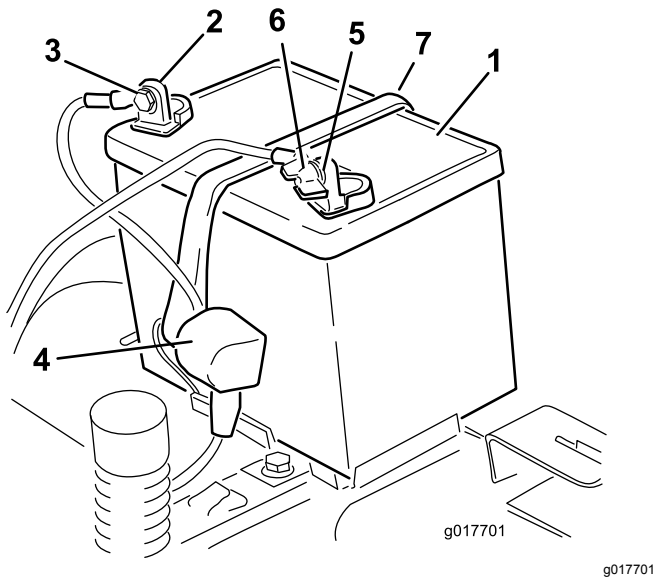

Figure 37
4. Disconnect the negative (black) ground cable from the battery post (Figure 37). Retain all fasteners.
5. Slide the rubber cover up the positive (red) cable. Disconnect the positive (red) cable from the battery post (Figure 37). Retain all fasteners.
6. Remove the battery hold-down and lift the battery from the battery tray (Figure 37).
1. Position the battery in the tray (Figure 37).
5. Secure the battery with the hold-down (Figure 37).